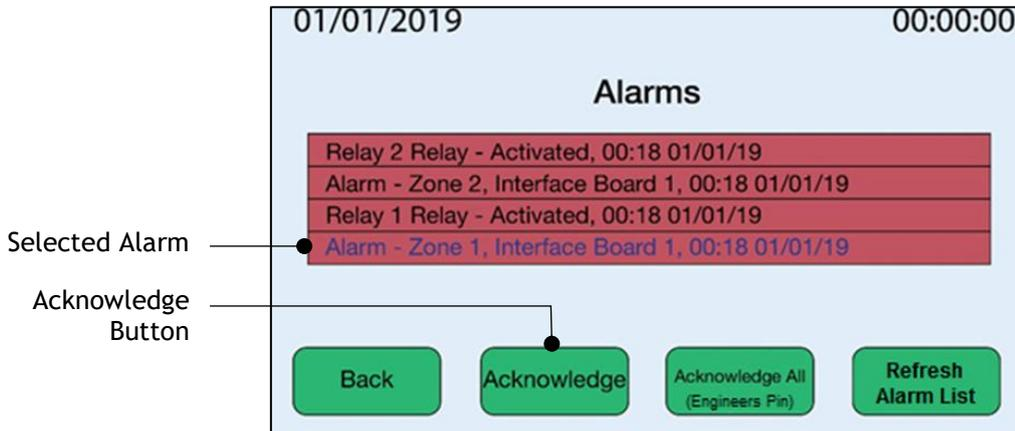

Figure 38: EMS Alarms Screen with Selected Alarm and Acknowledge Button
- Tap the **'Acknowledge All (Engineers Pin)'** button. A numeric keypad for the engineer PIN will display (Figure 38).
- Tap an **Alarm listed** to acknowledge it. Its **text colour** will change from black to blue. A green **'Acknowledge'** button will also appear (bottom centre-left; Figure 38).